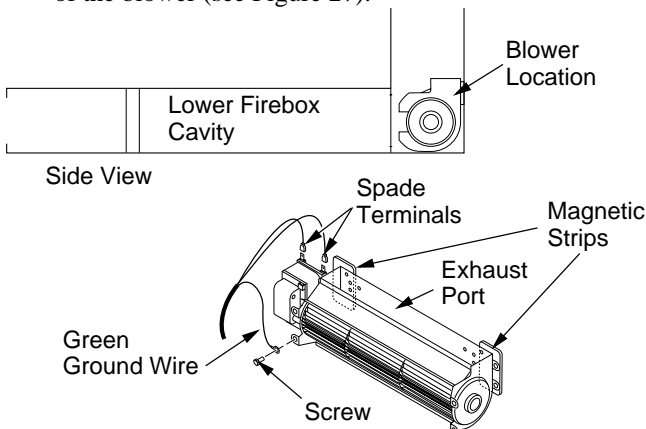

Figure 25 - Blower Model BK
1. Attach the power cord to the blower motor by firmly pushing the two female terminals at the end of the power cord onto the two spade terminals on the blower motor (see Figure 25, page 17).
2. Attach green ground wire from power cord to blower housing using screw provided (see Figure 25, page 17). Tighten screws securely.
3. Place the blower against the lower rear wall of the firebox outer wrapper with the exhaust port directed upward. The blower will fit inside the back opening and be held in position against the back wall by the magnets (see Figure 25).